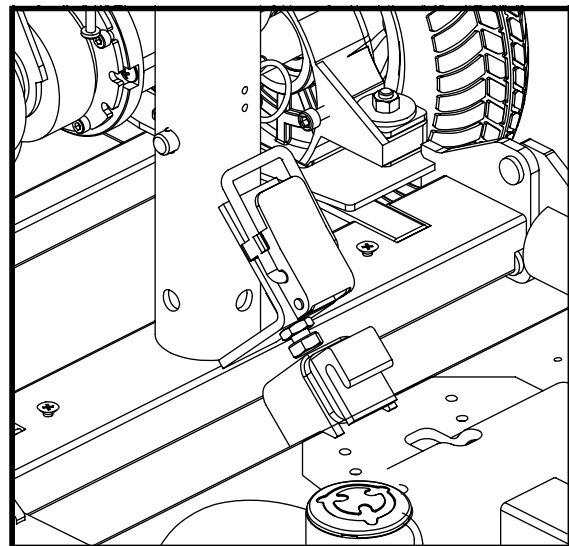

Figure 12. Toggle Latch Open
7. Rotate the toggle latch buckle over the top of the toggle latch until it snaps into its retainer. See figure 12.